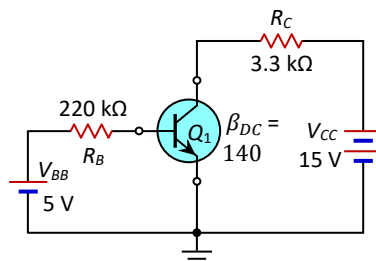

Fig. 4.q : Circuit for Exercise no. 6
17. Considering a Si transistor in the circuit of Fig.4-q, determine the value of I_B , I_C , and V_{CE} .